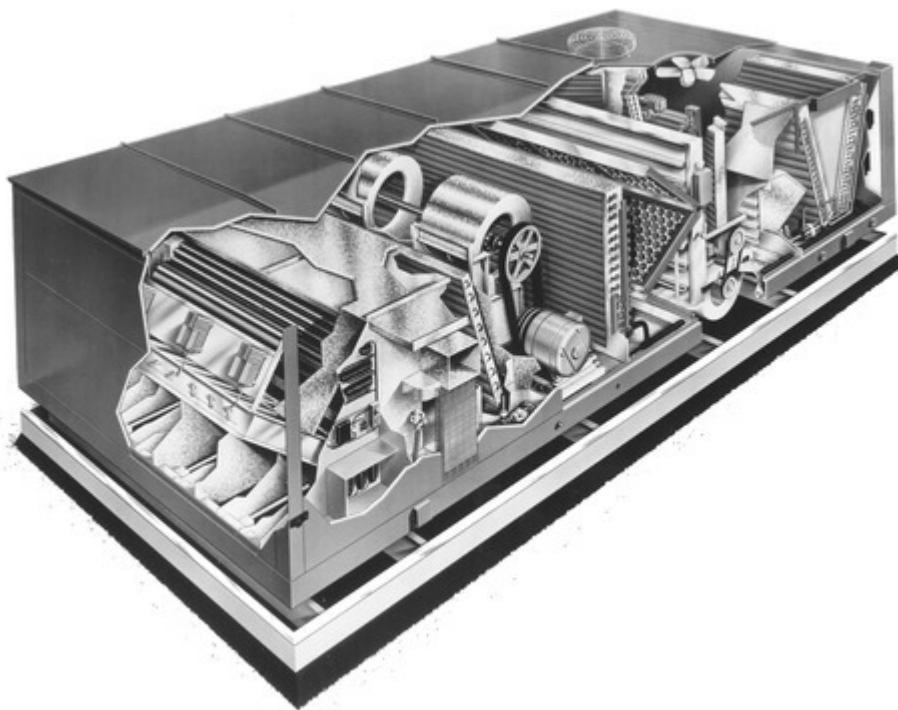

Figure 1. Typical Rooftop Air-Cooled Single-Package Air Conditioner
- **Multizone, constant-volume**, which has several controlled spaces served by one unit that supplies air of different temperatures to different zones as demanded (Figure 1).